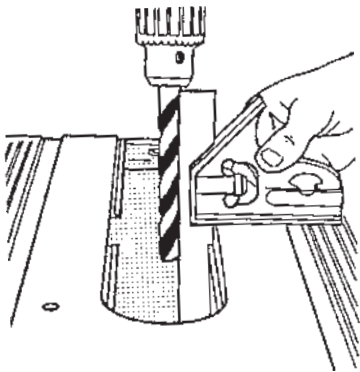
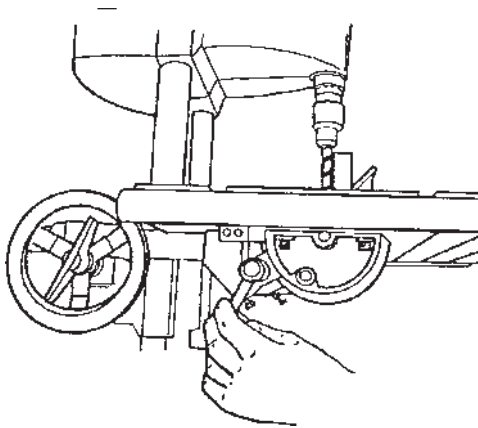

Figure B-55
Figure B-56
13. Set the combination square against the bit and table, as shown in Figure B-55. The square should contact the bit along its entire length. When the table is exactly perpendicular to the drill bit, lock the table, as seen in Figure B-56.